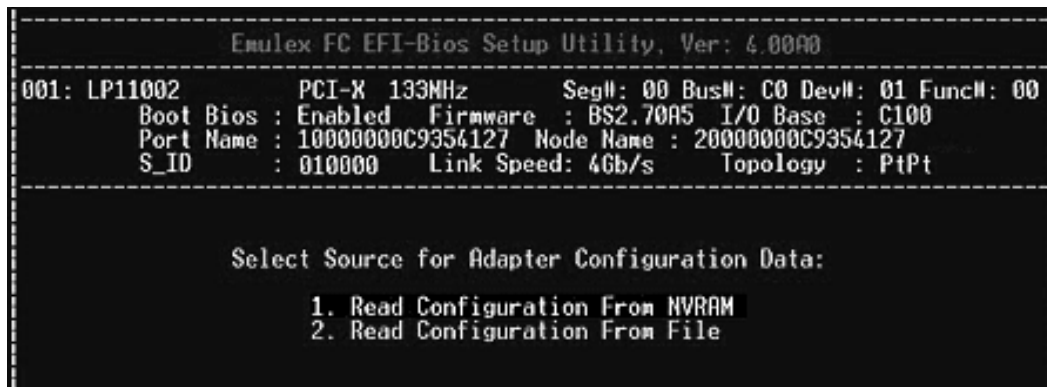

Figure 53: Select Source for Adapter Configuration Data menu
1. On the Save Configuration menu, select **2. Batch Configure Adapters**. You are prompted to select a source for the configuration (Figure 53).
- On the Save Configuration menu, select, **2. Batch Configure Adapters**. You are prompted to select a source for the configuration (Figure 53).